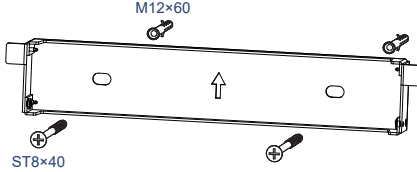

Fig. 2.2 Wall mounted bracket
- Select the mounting height of the support and mark the mounting holes according to Figure 2.2. For brick walls, the holes must be drilled to fit the expansion bolts.